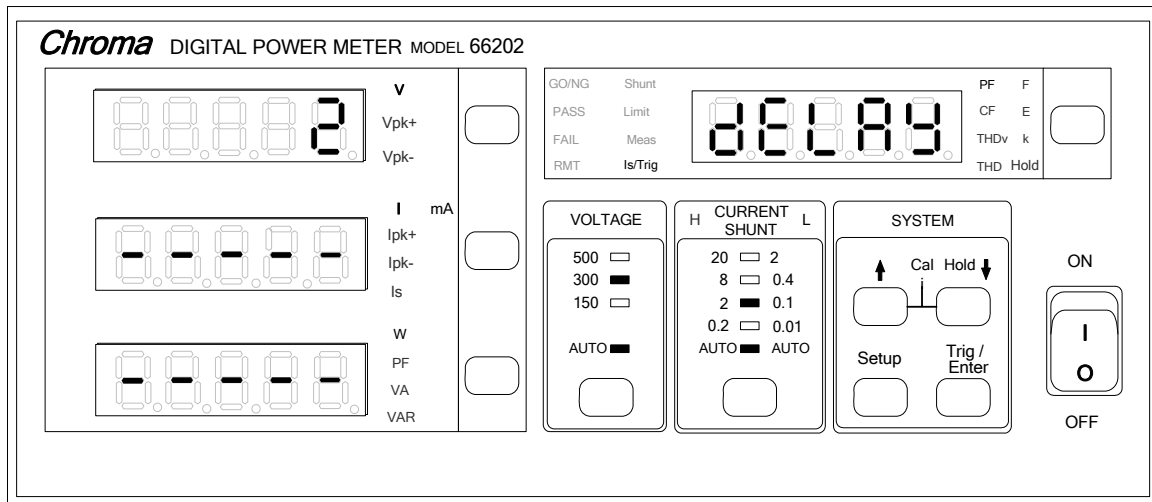

Figure 4-34 Setting Is/Trig
1. Press **Setup** to select Is/Trig and the indicator of Is/Trig is on. Figure 4-34 shows the setting of Is/Trig.